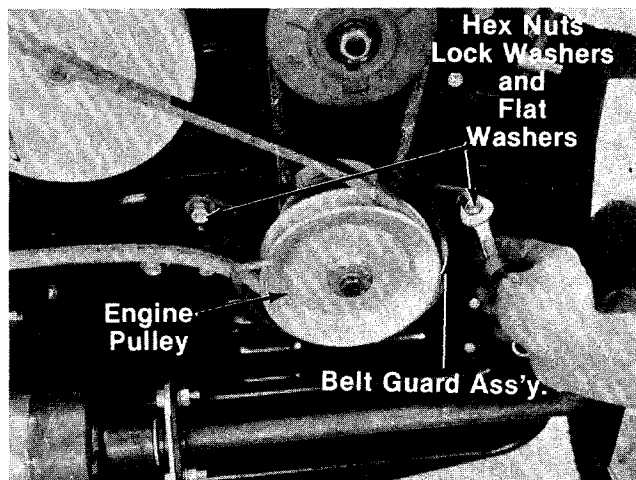

FIGURE 40.
2. Remove engine pulley belt guard assembly by removing two hex nuts, lock washers and flat washers as shown in figure 40. A 1/2" wrench is required.